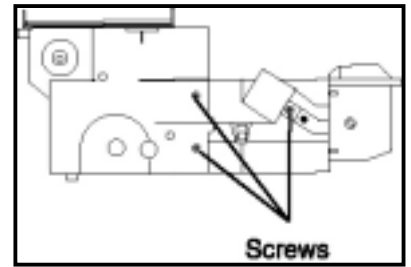

Figure 5
6. Remove 3 screws from left side (Fig. 5) & remove plate.